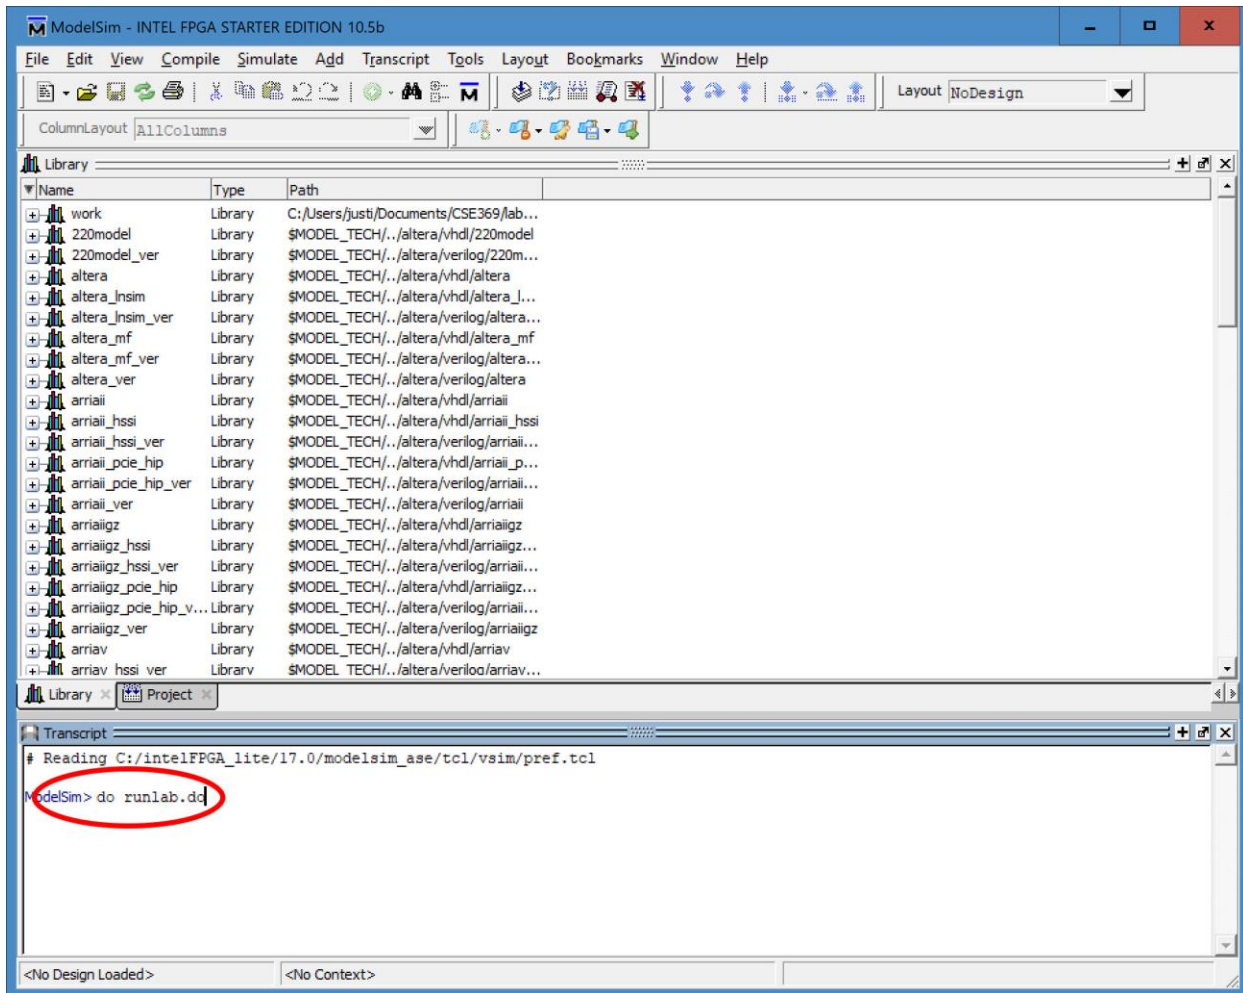

Figure 5: Entered the command "do runLab.do" into the Transcript pane. Press <Enter> to issue the command.
- 2) **Simulate the circuit by issuing the command “do runLab.do” in the Transcript pane.** The Transcript pane can be found at the bottom of the ModelSim window (*Figure 5*). The *runLab.do* file will compile and run the simulation for *mux2_1*.